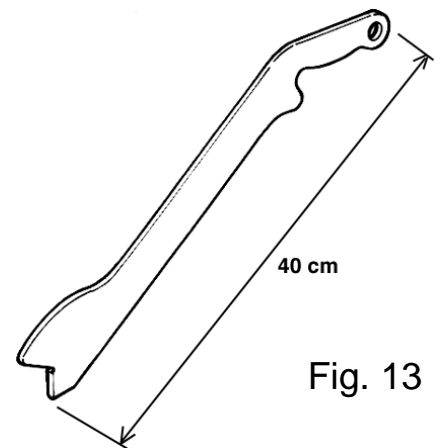

Fig. 13
- **The longitudinal pusher** (Fig. 13), allows you to guide the advancement of long sawn narrow boards.